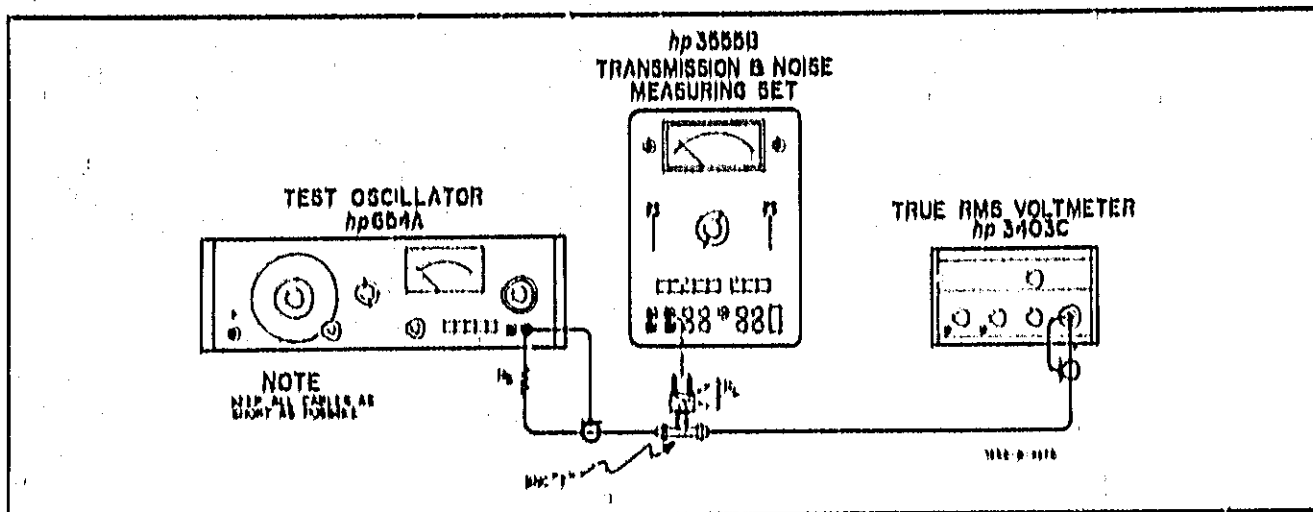

Figure 5-4. Return Loss Test Set-Up
- b. Connect the equipment as shown in Figure 5-4. Make  $R_2 = 850 \Omega$ . Set the 3403C on the 1 V ac RANGE.